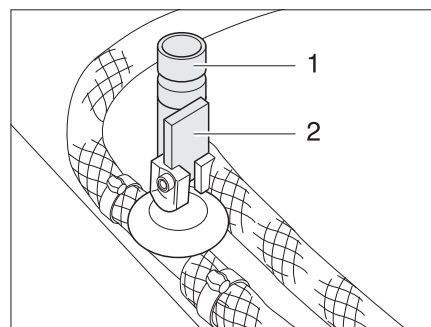

Fig. 126 Drain cocks for Truma boiler
- Close all boiler drain cocks. To do this, position the rocking lever (Fig. 126,2) horizontally or turn the cap (Fig. 126,1) in a clockwise direction.
- Open all boiler drain cocks. To do so, position the rocking lever (Fig. 126,2) vertically or turn the cap (Fig. 126,1) anticlockwise.